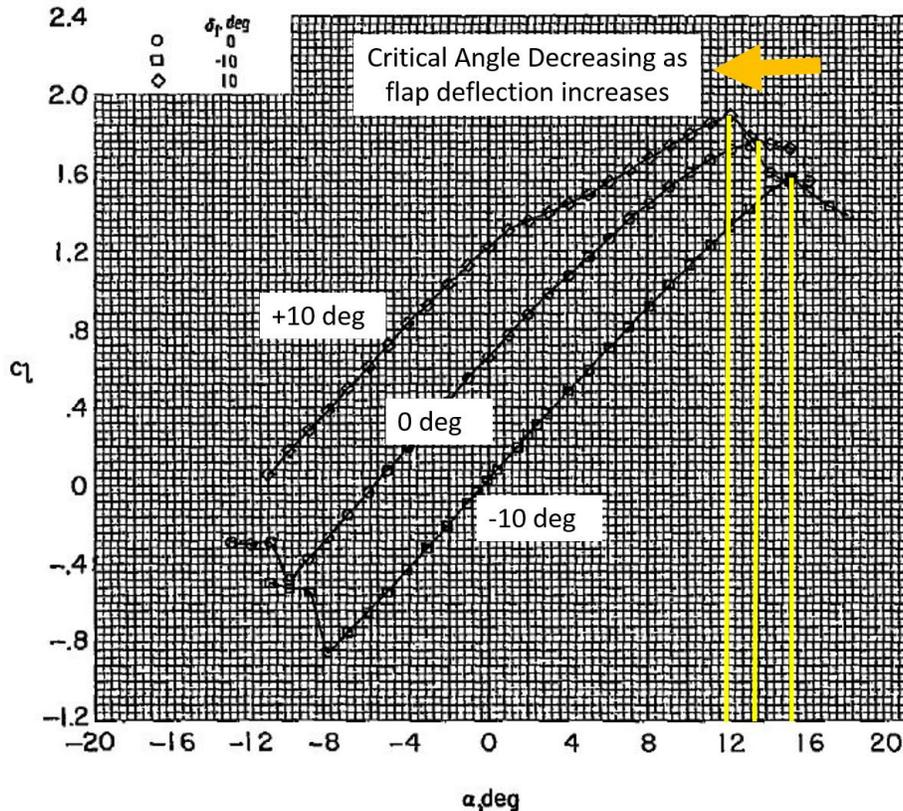
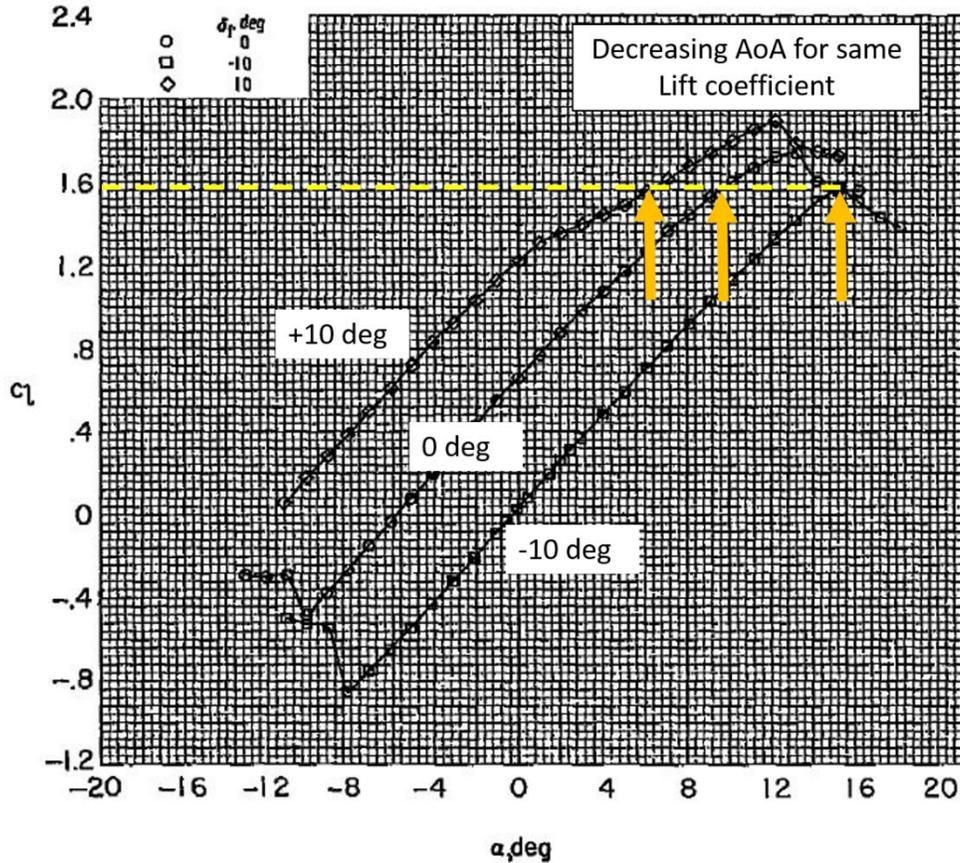

Figure 1, Effect of Flap Deflection on Critical AoA, NASA TP-1865
Figure 2, Effect of Flap Deflection on AoA at constant CL, NASA TP-1865
1. **Flap Position.** After-market AoA indicators require calibration in cruise and landing configurations because deploying flaps will lower the critical angle of attack. Thus any AoA instrument must adjust for flap setting. In reality this calibration must span the continuum of flap settings. For simplicity however, it is common to only use the end points. As an example, let us look at the airfoil used on the Lancair 360, the NLF-0215F. Three flap settings are shown -10 degrees, 0, and 10 degrees in Figure 1. In a cruise setting of -10 degrees the critical angle is about 15 degrees. This decreases to 13 degrees at zero flaps and then decreases to 12 degrees at 10 degree flaps. As an aside, note how much the angle of attack is reduced to maintain a given lift coefficient when flaps are deployed (Figure 2). At a lift coefficient of 1.6, the required AoA starts at 15 degrees and reduces to about 6 degrees. The wing produces the same lift at a much lower angle of attack.